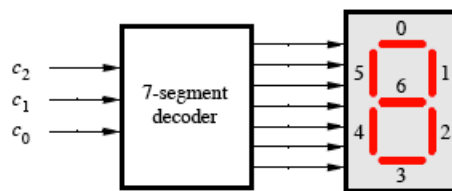

Figure 8. A 7-segment decoder.
Figure 8 shows a *7-segment decoder* module that has the three-bit input  $c_2c_1c_0$ . This decoder produces seven outputs that are used to display a character on a 7-segment display. Table 1 below lists the characters that should be displayed for each valuation of  $c_2c_1c_0$  (plus the 'blank' character, which is selected for codes 101 - 111).
The seven segments in the display are identified by the indices 0 to 6 shown in Figure 8. Each segment is illuminated by driving it to the logic value 0.
1. Write a VHDL entity/architecture to activate each of the seven segments. Use only simple VHDL assignment statements in your code to specify each logic function. Connect the outputs of the decoder to the *HEX0* display on the DE2-series board. The segments in this display are called *HEX00*, *HEX01*, ..., *HEX06*, corresponding to Figure 8. You should declare the 7-bit port: